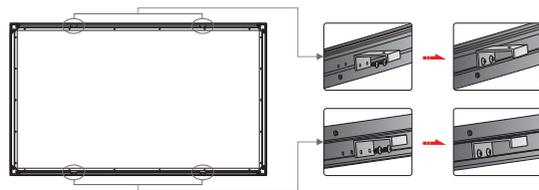

Figure 21
1. Each screen is equipped with 4 brackets labelled 1,2,3,4; and thus the concave frame has relevant marks of 1, 2, 3, 4. When installing the brackets, use the $\phi 5 \times 10$ mm screws to fix the bracket 1st to mark 1st on the concave frame. Do the same for bracket 2nd, 3rd and 4th. (Figure 21). Make sure the screws are tightly fastened.